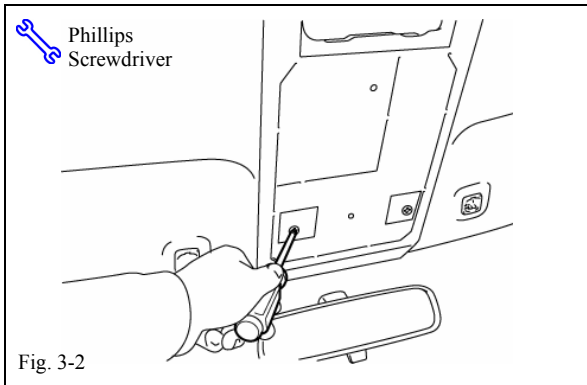

Fig. 3-2
- (c) Once the template is taped in position, press template against roof headlining and drive template fasteners into roof headlining with Phillips screwdriver. Begin with the front fasteners, and finish with the rear fastener. (Fig. 3-2)